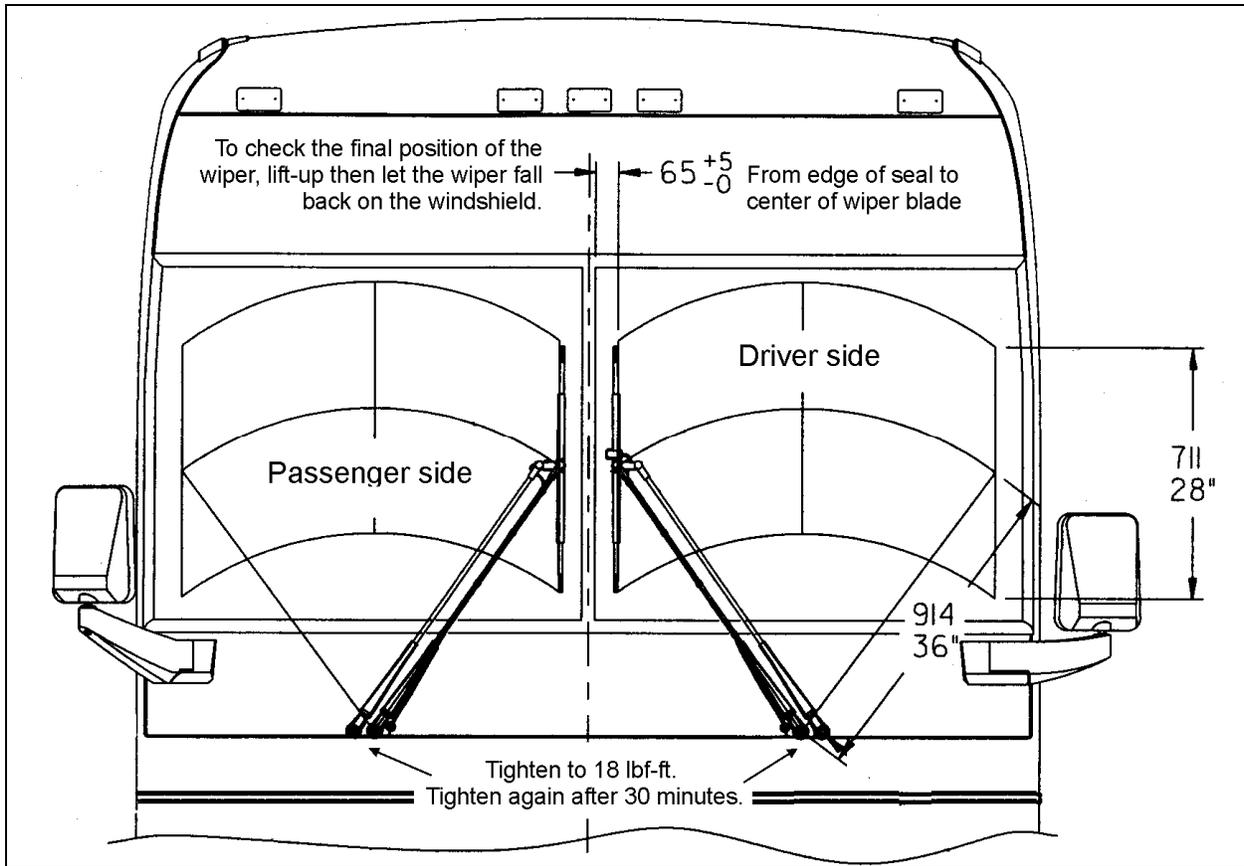

FIGURE 34: WIPER ARMS POSITIONING
1. Reinstall the wiper arms and position as shown in figure 34. Before positioning the